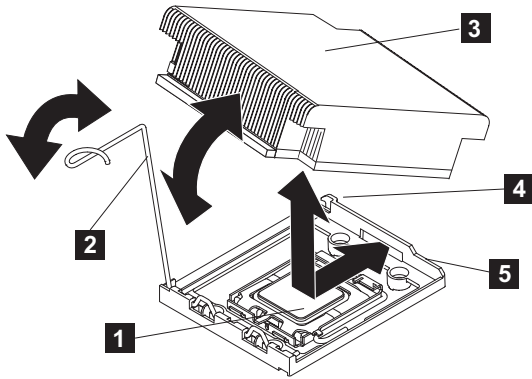

Figure 254. Installing the heat sink on the SAN Volume Controller 2145-CF8 microprocessor
8. Align the heat sink on top of the microprocessor, as shown in Figure 254.